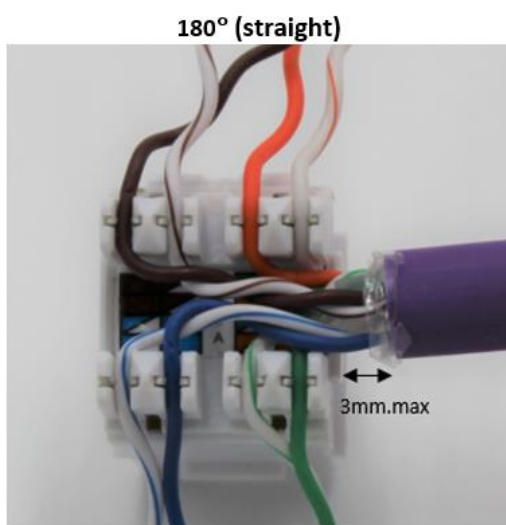

Fig. 6
3.6 Allow 3mm (max.) unsheathed wire to the jack base for 180° (straight) cable exit when terminated with 4 Pair Termination Tool. Fig. 6